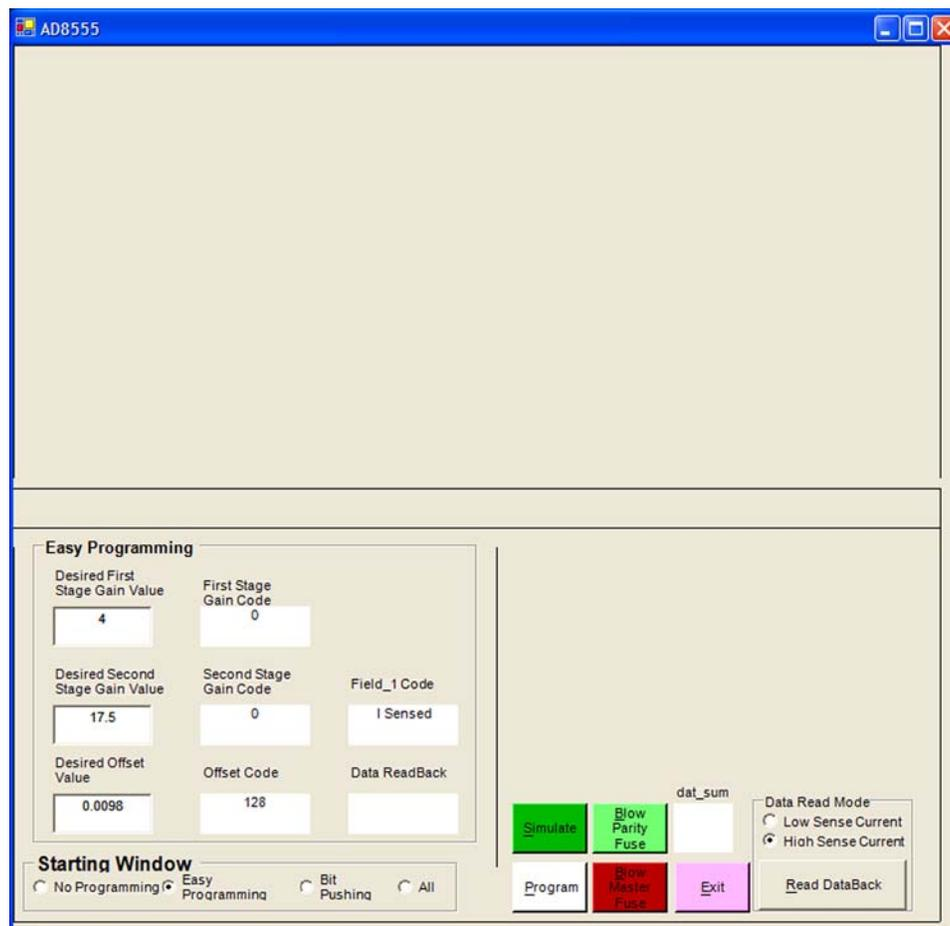

Figure 4. Easy Programming Dialog Box
1. To select the easy programming mode, click **Easy Programming** in the **Starting Window** at the bottom of the **AD8555** software dialog box. The dialog box shown in Figure 4 appears.